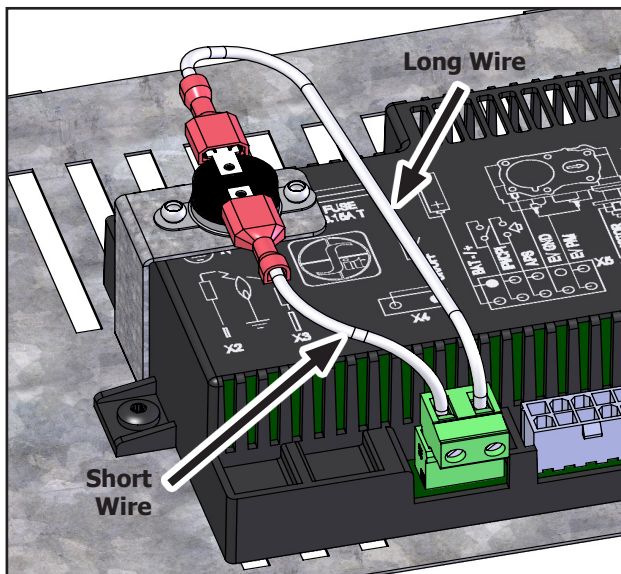

Figure 13. Hi-Limit Switch - Correct Wiring
Step 3: Using a small flat-blade screwdriver, loosen the terminals on the IFC ON/OFF plug (X4 on IFC) and remove the jumper wire (see Figure 13). Next, insert the wires from the Hi-Limit Switch and re-tighten the terminals. There is no polarity to the wires so they cannot be wired backwards.